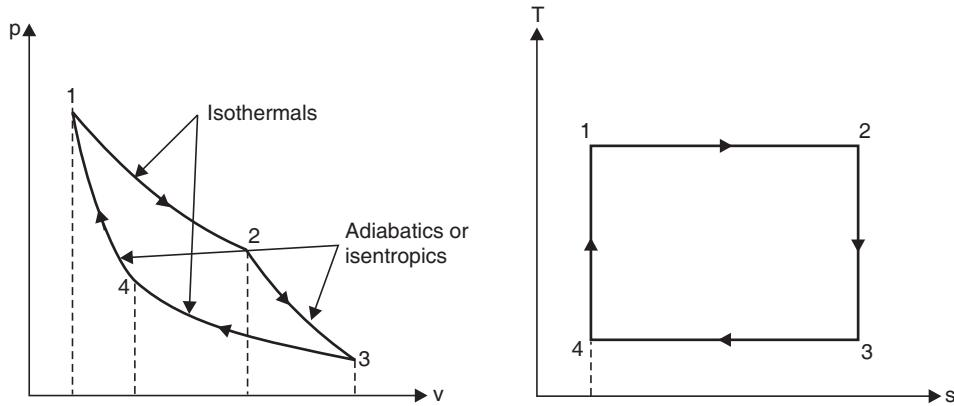

Fig. 4.4
**Solution.** Refer to Fig. 4.4.